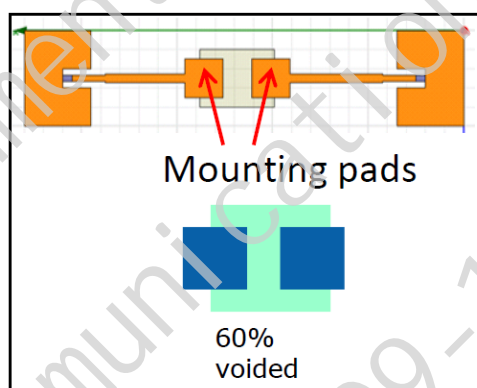

Figure 8. SFI+ Layout Rules for AC Coupling Capacitors
2. Partially void the reference layer (~60%) to reduce the capacitance. (see Figure 8)